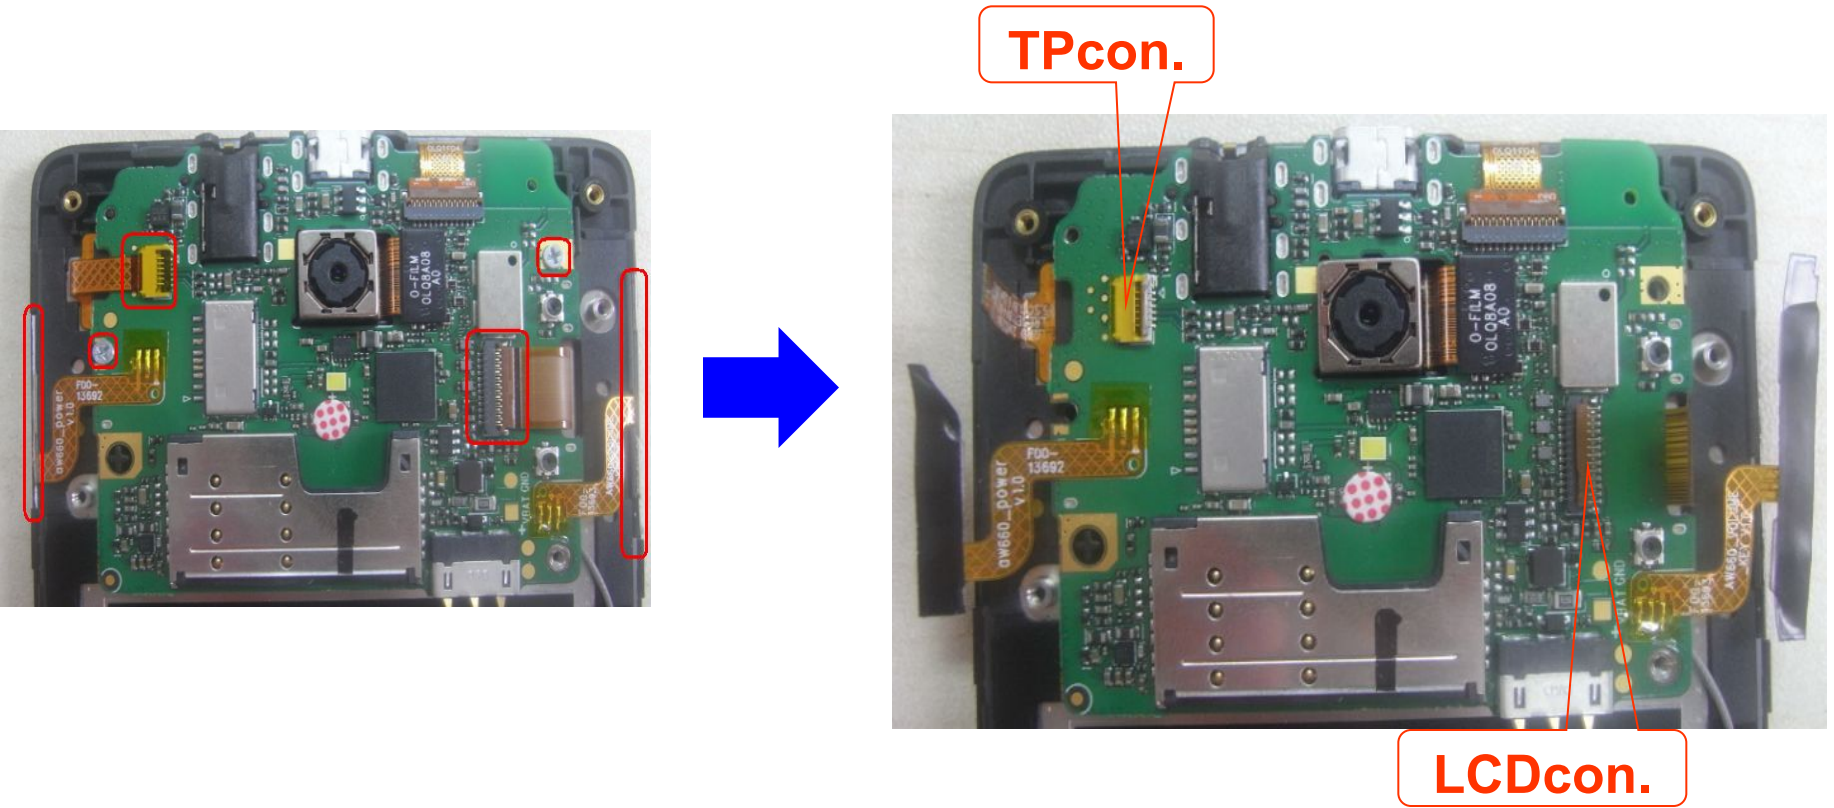

Fig.5
2) remove two screws and open the LCD con.& TP con. , and remove the volume key FPC & power key FPC as the fig.5;